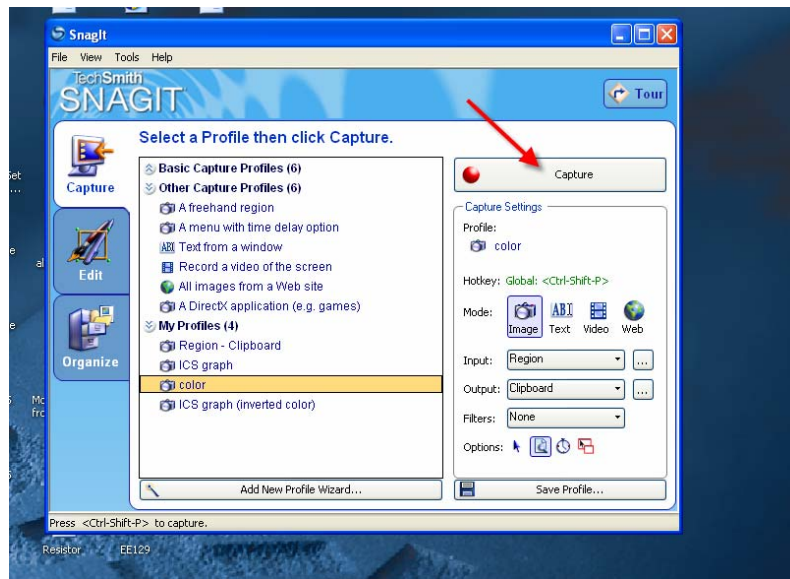

Figure 68: Capture by clicking capture button
2. To capture the image, you may call up the window of SnagIt and then click on Capture button, seen in Figure 68.